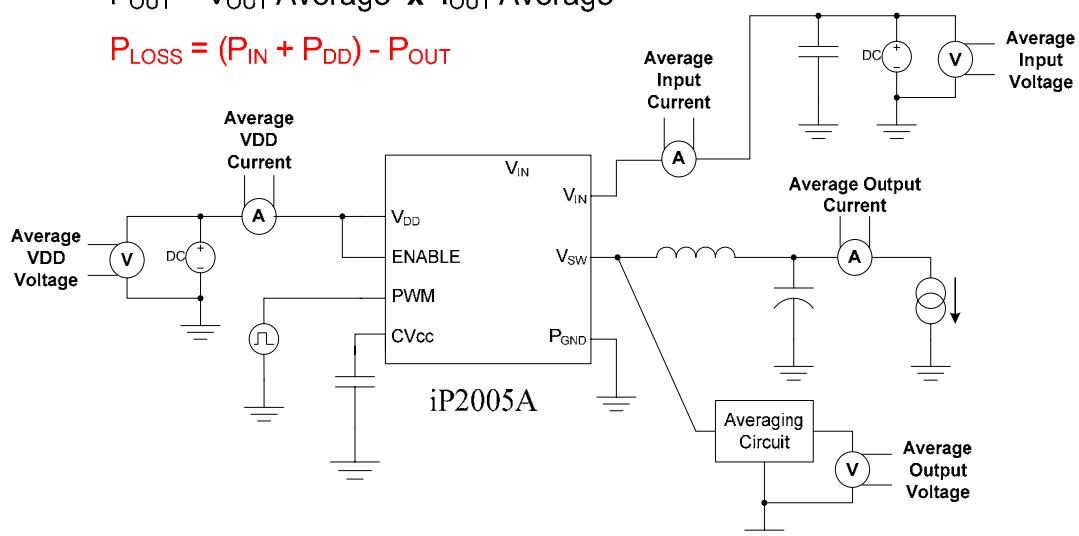

Figure 8 Power Loss Test Circuit
3. Measurement made with six $10\mu\text{F}$ (TDK C3225X5R1C106KT or equivalent) ceramic capacitors placed across VIN to PGND pins (see Figure 8)